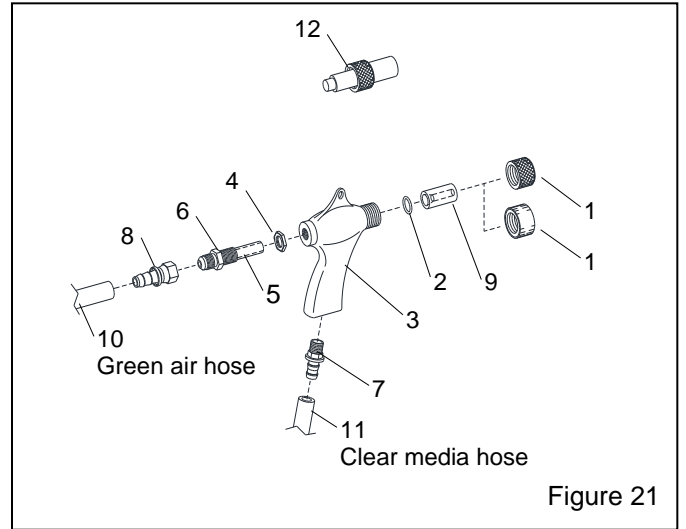

Figure 21
**10.9.1** Make sure the air hose and media hose are not reversed on the gun; the green air hose attaches to the back of the gun, and the clear media hose attaches to the bottom of the gun's grip. Refer to Figure 21.
**11.2 BNP® Gun and Hose Assembly – Figure 21**